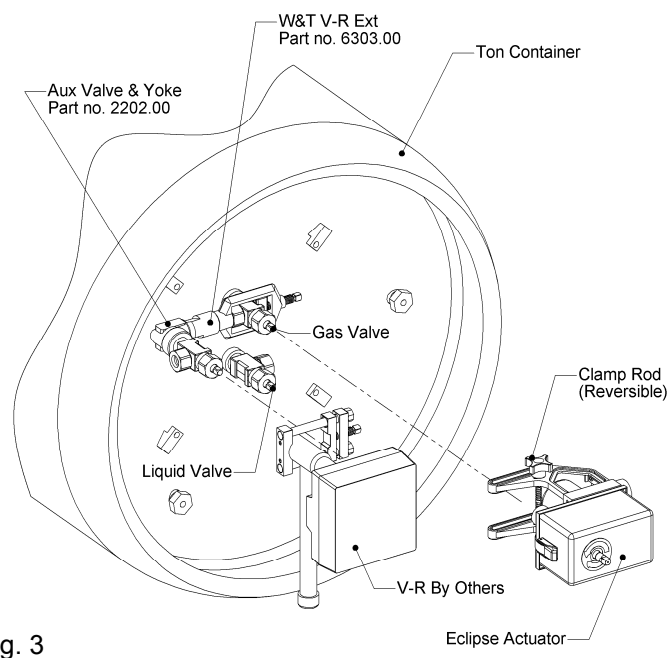
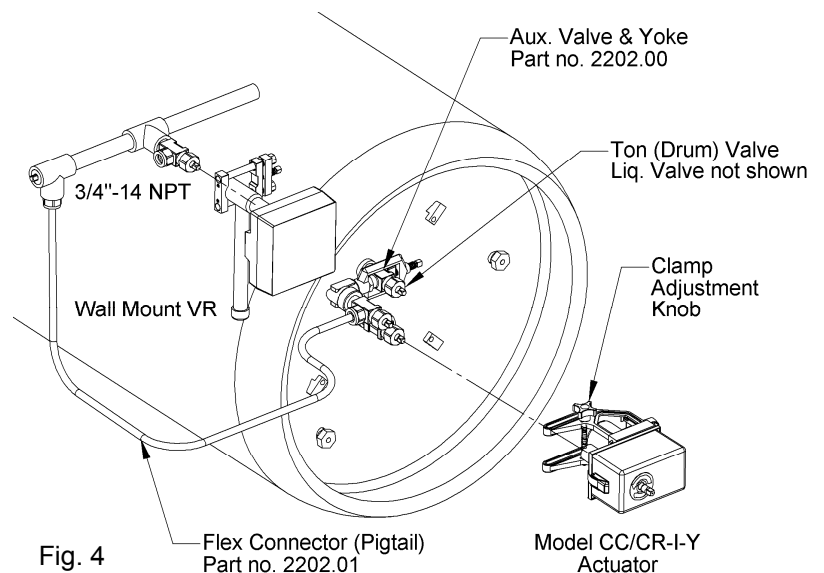

Fig. 3
Fig. 4
Vacuum regulators (VR) are designed to mount directly to the ton container valve and vary widely in weight and configuration from one manufacturer to another. All of the vacuum regulators can be converted to header or wall mounting as shown in Fig. 4 to reduce the weight on the valve. **This header or wall mounted arrangement is the preferred method for use with the Halogen Valve Actuator.**
Some makes and models of vacuum regulators may be mounted directly to the ton container valve in conjunction with the actuator as shown in Fig. 3. The auxiliary valve and yoke assembly, Part No. 2202.00, is required to provide sufficient clearance for the actuator. This arrangement requires that both the vacuum regulator and valve actuator be removed and re-installed with each container change. In some cases, this method will require two make-break connections and gaskets as compared to the single make-break and actuator connection shown in Fig. 4. Access to the vacuum regulator and the actuator is constrained by their close proximity. Some vacuum regulators are too heavy to be mounted as shown in Fig. 3. Contact your local Halogen Valve Systems rep or consult the factory.
The configuration shown in Fig. 4 has several advantages. The V-R becomes semi-permanently installed on the header and need not be changed with each container change. Only one make-break connection is required at the yoke connection during changeover.
The only disadvantage to the arrangement of Fig. 4 is that the pigtail is pressurized and cannot be isolated by the shutdown feature of the V-R. The amount of chlorine gas contained in the pigtail connection at normal temperature and pressure is very small, about 8 grams or 1/3rd ounce. This small exposure, should it escape, is offset by the advantage of having automatic shut-off at the container valve.